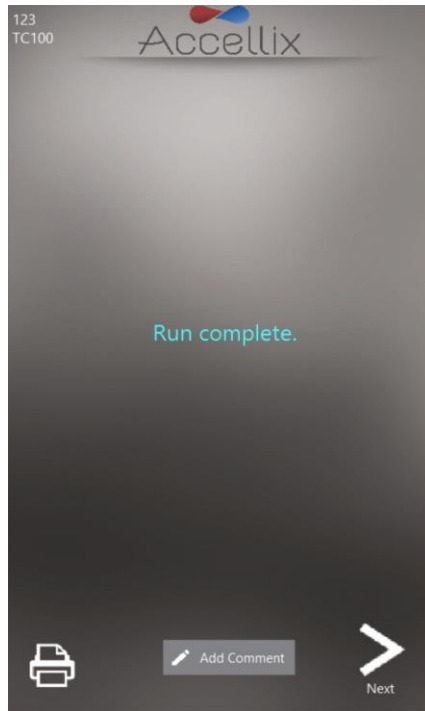
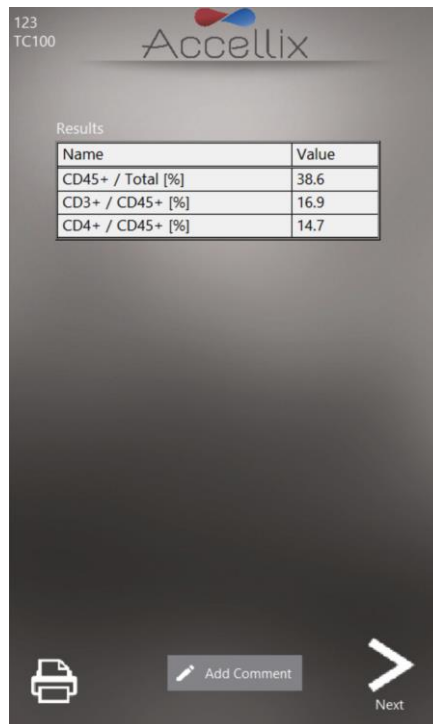

Figure 40: Example of Run Complete screen
Figure 41: Example of On-screen Results Report
The following two screens are examples of potential result displays (Figure 40 and Figure 41):
- a. For an assay which produces an on-screen results report, e.g., T Cell RTF (L) Assay, a **Results** screen will be displayed on the screen at this point. See example of on-screen **Results** report in Figure 41.